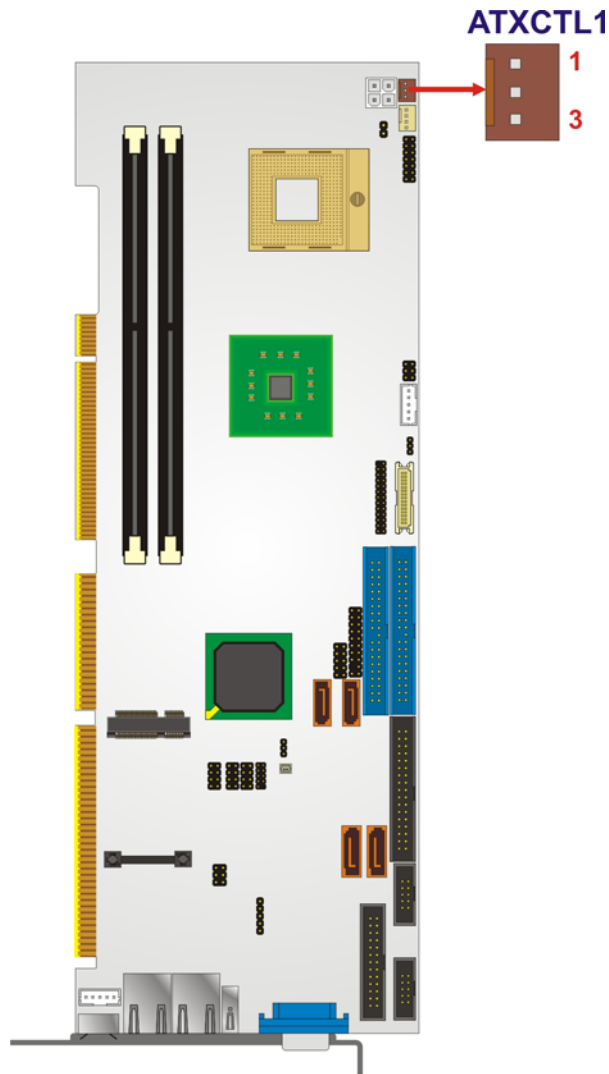

Figure 4-3: Backplane to Mainboard Power Connector Location
- CN Location:** See **Figure 4-3**